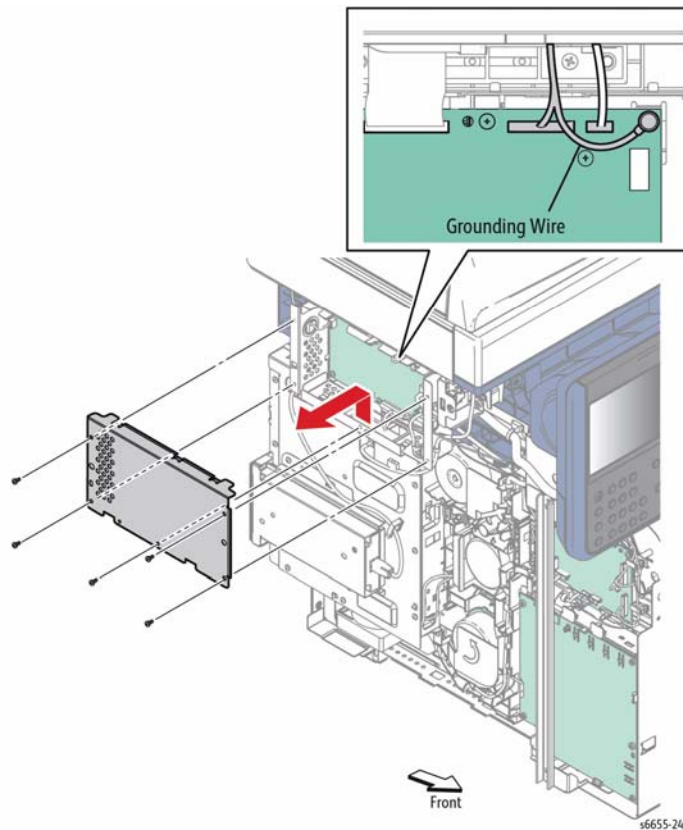

Figure 1 Remove the IIT MCU Plate and Disconnect the Scanner Connectors
2. Refer to Figure 1 to locate and remove the five screws (silver, 6 mm) attaching the IIT MCU Plate (PL18.2.1), and remove the plate.
3. Refer to Figure 1 to locate and remove one screw (silver, 6 mm) attaching the ground wire to the IIT MCU Board, and remove the ground wire
4. Locate in Figure 1 connectors P/J451,P/J452,P/J453 and disconnect from the Board.